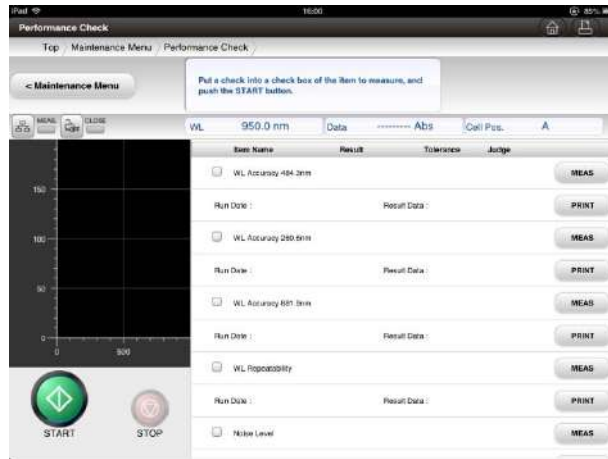

Fig. 6-19 Performance Check Screen
- (1) Display the Performance Check screen (Fig. 6-19). Press the  button on the right edge of the item name “Hardware check.” Then, the hardware check is performed.